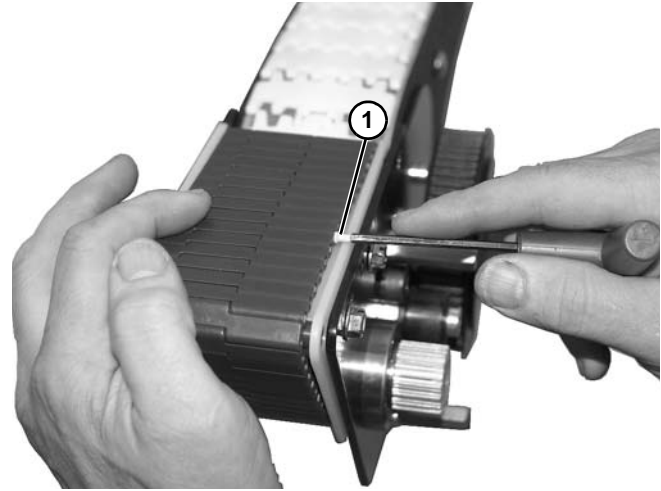

Figure 174
7. Bring ends of belt together and install pin (Figure 174, item 1).